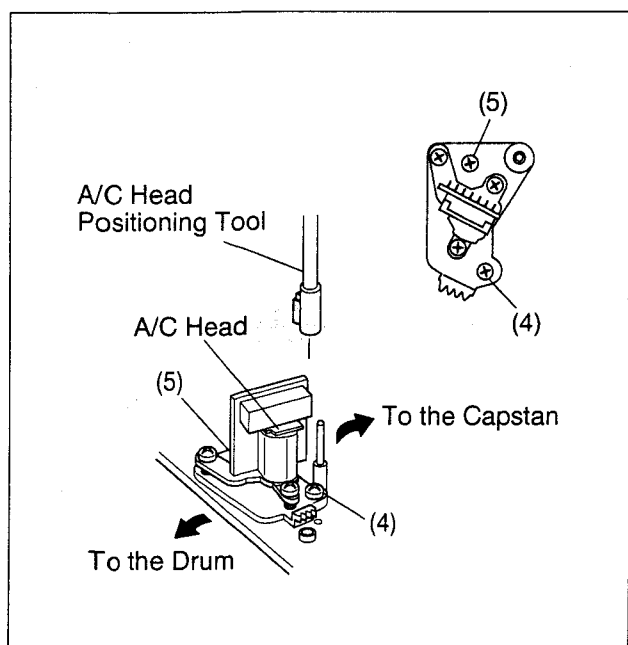

Fig. 2-8-6
- Apply the external trigger signal to D.FF (E), to observe the V.PB FM waveform at the measuring point (D).
- Loosen screws (4) and (5) so that the A/C head positioning tool is set as indicated in Fig. 2-8-6.
- Turn the A/C head positioning tool fully toward the capstan. Then turn it back gradually toward the drum and stop on the first peak point position of the V.PB FM waveform output level. Then tighten the screw (4) temporarily.
- If it is not at maximum, loosen the temporarily tightened screw (4) and turn the A/C head positioning tool to bring the audio control head to a position around where the waveform reaches its maximum for the first time. Then tighten the screws (4) and (5).